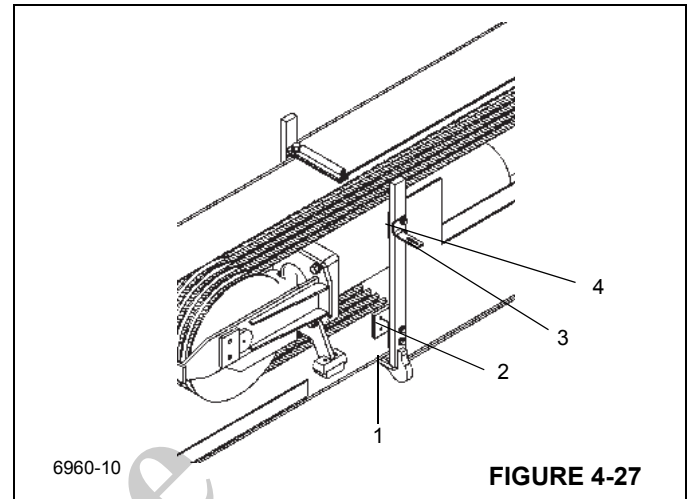

FIGURE 4-27
10. Lift up on the front of the fly and install the bottom front wear pads (1) (Figure 4-27) in the pockets of the outer mid.
11. Install outer mid front top (4) and bottom (2) side wear pads with two screws each. On top left side attach mounting angle (3) with top wear pad screw (Figure 4-27). Shim as noted during disassembly.